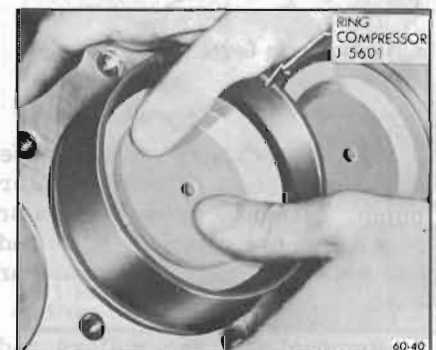

Figure 60-137—Installing Piston with Ring Compressor
14. Lubricate the piston and rings and install in bore by compressing the rings either with a "wrap around" compressor or a split ring type such as shown in Figure 60-137.